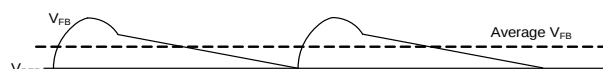

Figure 3: Average V_{FB} in Sleep Mode
As the load decreases, the output voltage ripple (ΔV_{OUT}) increases and drives the EA output (EAO) low. If the EAO reaches its internal low threshold, then it clamps at this level and the device enters sleep mode. During sleep mode, the valley of the feedback (FB) voltage (V_{FB}) is regulated to the internal reference voltage (V_{REF}). This means that the average V_{OUT} is slightly exceeds the V_{OUT} in discontinuous conduction mode (DCM) or continuous conduction mode (CCM). The on-time pulse in sleep mode is longer than that in DCM or CCM. Figure 3 shows the relationship between the average V_{FB} and V_{REF} in sleep mode.